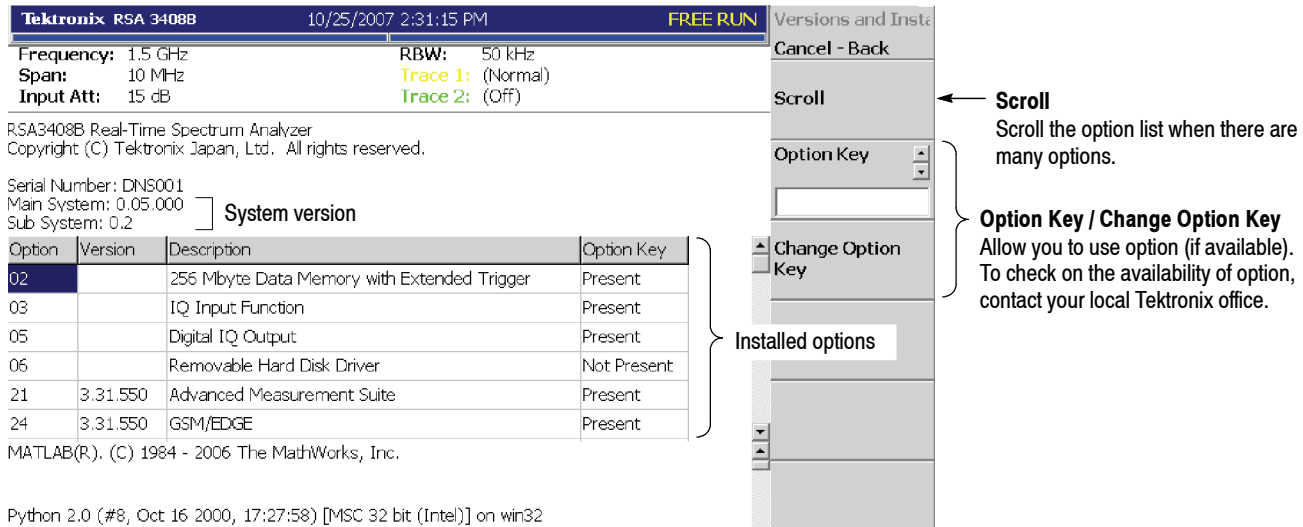

Figure 2-24: Displaying versions and options
The screen appears as shown in Figure 2-24.
2. Press the **Option Key** side key (see Figure 2-24) and enter the option key using the alphanumeric keypad on the front panel.